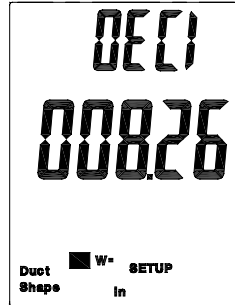

Fig. 5
1. If duct shape is rectangular, the width of duct numbers and "W=" will appear on the display (Fig. 5).